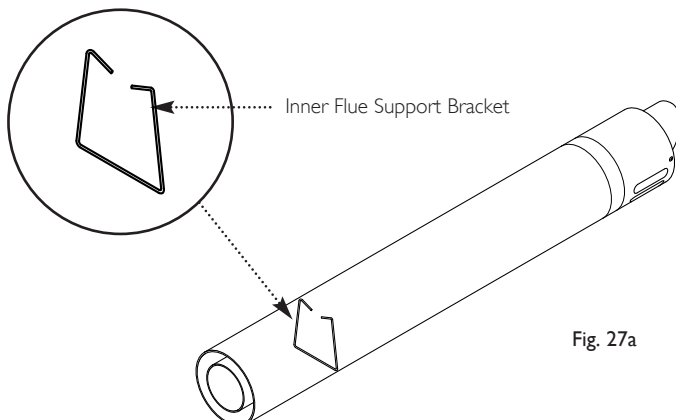

Fig. 27a
**NOTE:** When cutting ensure the cut does not interfere with the inner flue support bracket (Fig. 27a).